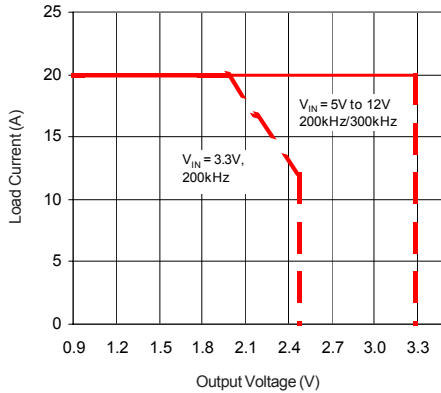

Fig 5. Recommended Operating Area
- ① For V_{in} less than 4.5V requires external 5V_{DD} supply.
- ② Can be modified to operate up to 3.3V_{OUT}, outside of DAC settable range. See Design Guidelines on how to set output voltage greater than 2V.
- ③ See design guidelines.
- ④ See Fig. 5 for Recommended Operating Area
Note: If input voltage <5Vin nominal operation is required then first see Fig. 5 for maximum current capability limit.